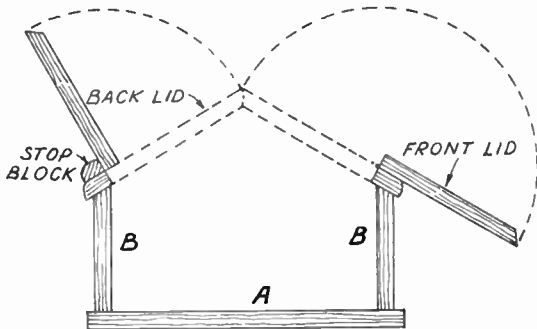
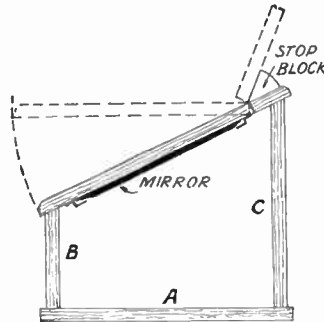
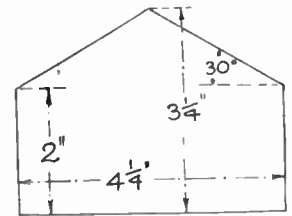
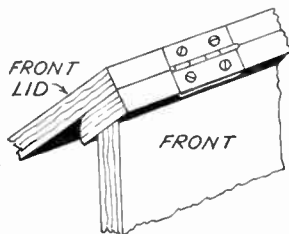

Fig. 2—Showing how the lids of the first casket work
Fig. 4—The lid arrangement of the second casket
Fig. 5—Dimensions for the sides of design 1
Fig. 7—The method of fixing the hinges
Perhaps the simplest alternative to actual basket work is shown in Fig. 7. For this, set out the part (R), (S), (T), (U) in Fig. 2. (The basket work shown thereon is just a hint for painting afterwards). Fig. 7 shows how a box-
Another method is shown in Fig. 5. Here the false base has a semicircular end and thin plastic sheet is used to make the U shaped container. Both this and the arrangement shown in Fig. 7 may have imitation basket work over it. One can cut strips of card, or, better, use the wood suitably cut down from the chip baskets that watercress is packed in. Do a simple 'over and under' weaving and
The back lid is seen in its upright position in Fig. 2. In the casket shown in Fig. 3 there is only one lid. This is cut through at the back top edge, and the narrow piece thus cut is fixed to the box as seen in the section Fig. 4. The advantage of this wider lid is that a mirror can be fixed on its underside.
Upon the floor, the two ends will be glued and screwed, the outline for the ends being given in Figs. 5 and 6. The back rail or side of the box in Fig. 4 measures 4ins. wide, while the front rail of both boxes is 2ins. wide. So also is the back rail of the box (Fig. 1).
There is a certain novelty about each design shown. That in Fig. 1 for instance, has two lids which open out and come together at a point at the top. Now look at Fig. 2 to see how these lids look when folded open and at rest. The front lid is cut through on a line ½in. from its front edge, and the piece so cut is hinged to the remainder, giving it the
Here again a stop block is fixed to the back rail to hold the lid at a convenient angle. The construction of each box is very similar, the floor (A) and the front (B) being of the same dimensions, and by comparing the two sections, Figs. 2 and 4, it will be seen that the back (C) in Fig. 4 is higher and supports the fixed rail of the lid. The suggested size of the
If desired, the four top edges of the base could well be rounded off with glasspaper to give a good effect. The method of fixing the hinges to the boxes and lids is shown in Fig. 7. Cut shallow recesses for the flaps of the hinges, and see that they are flush when let in, so that a close joint is made when the lids are closed. Careful attention must be given to the chamfering of the edges of the lids (Fig. 1) to make them meet evenly all along.
In Fig. 4, which is a section through the box of design No. 3, the position of the mirror is shown on the lid, a mirror from 3ins. to 3½ins. wide being chosen for the purpose. The kind of mirror clip suggested to hold it in place is shown in Fig. 8. These can be purchased at any
chosen card. (Details of how to manage this duplication will follow). This duplicate rests in the first place on the spring, but when the spring snaps upwards, the card is shot up into the air for some distance. Figs. 7 and 8 make this quite clear.
Figs. 7 and 8 — How the box works